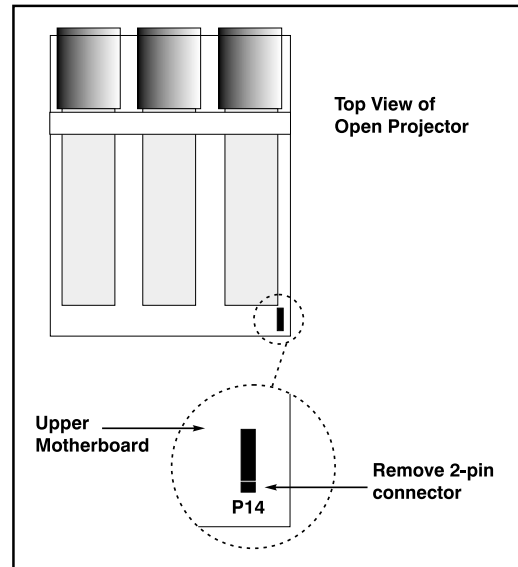

Figure 3. UMB Connector at P14
- 7) Disconnect the harness from the Upper Mother Board at the P14 connector (2-pin). This harness runs back to the LVPS, which supplies the heater voltage. See Figure 3.